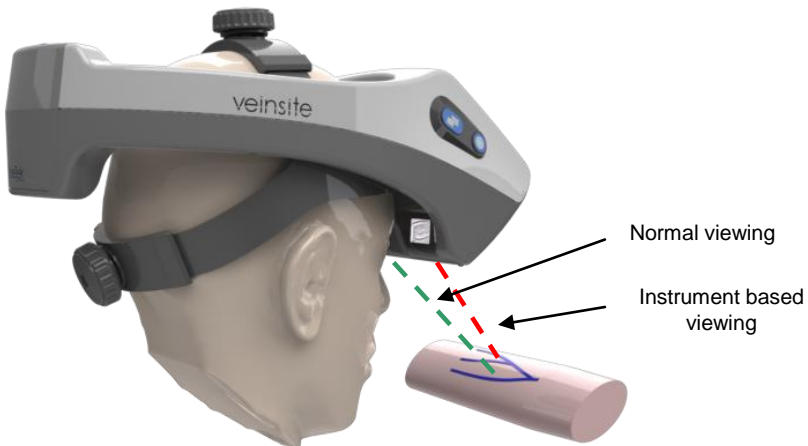

Figure 5
- a) Look into the display for an enhanced view of the vasculature (see Figure 5).